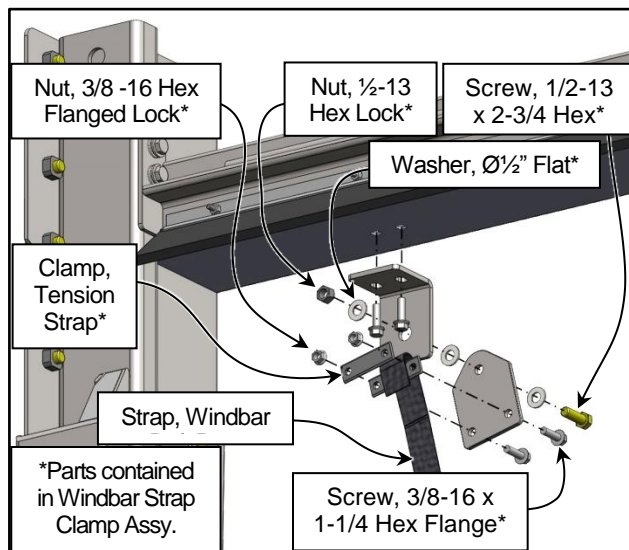

Figure 68
9. Pull both the Windbar Straps taught. Secure the straps in the front mounted Strap Clamp Assemblies as shown. (See Figure 68)